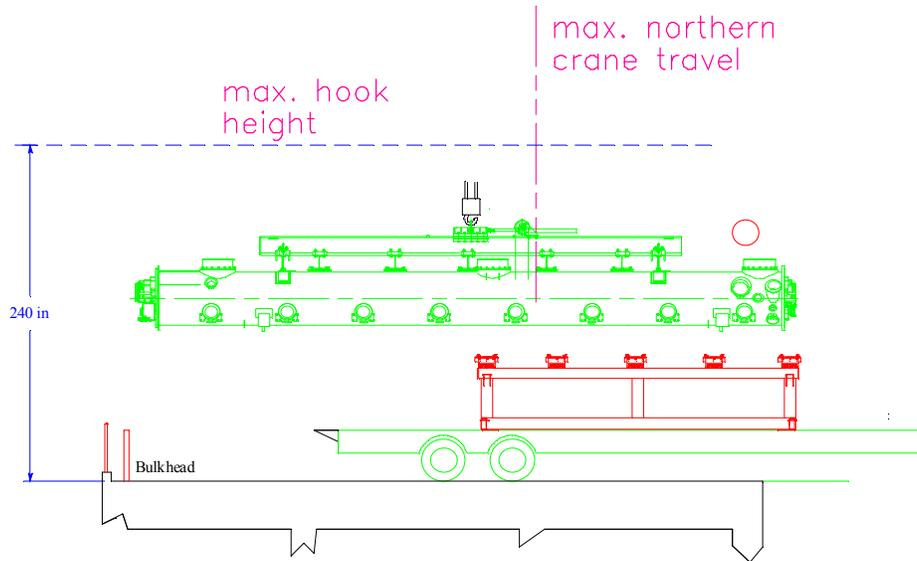

Figure 6. Remove CM1 assembly from transport frame.
- Carefully lift CM1 assembly and raise to a safe clearance height which avoids red frame on trailer and other obstructions as shown in Figure 6